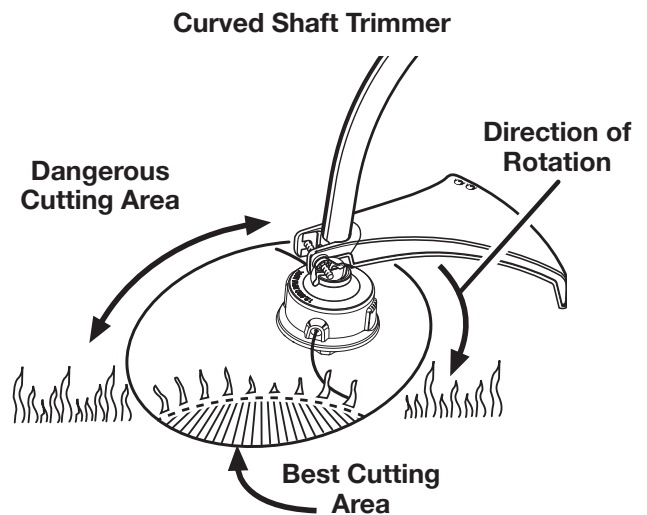

Figure 12
See Figures 12 and 13.
3. The curved shaft trimmer cuts when passing the unit from right to left. The straight shaft trimmer cuts when passing the unit from left to right. This will avoid throwing debris at the operator. Avoid cutting in the dangerous area shown in figures 12 and 13.